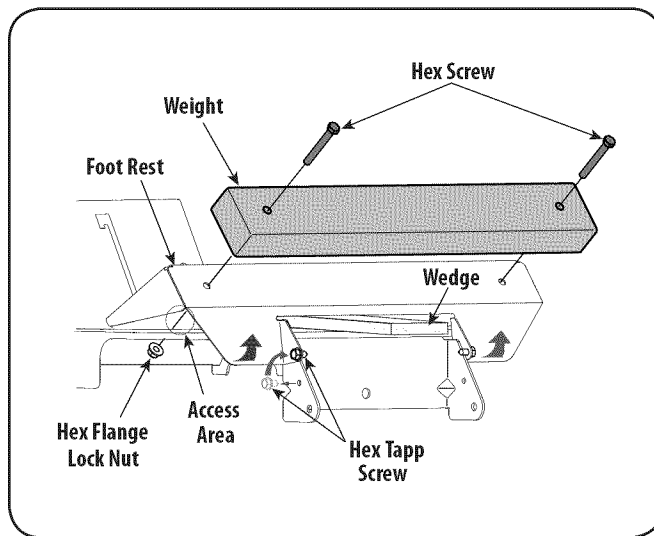

Figure 4-20
Because the openings between the foot rest and the tractor frame (Refer to Fig. 4-20) provide only limited access for installing the hex flange lock nuts, it is recommended that you enlarge these access areas by temporarily raising the front of the foot rest. To raise the front of the foot rest, proceed as follows:
2. Grasp the front of the foot rest and lift it upward. Use one (or both) of the following methods to hold the front of the foot rest in the raised position while installing the weight. Refer to Figure 4-20.
5. Insert two 710-3022 hex screws, from hardware pack 689-00093, through the hole at each end of the weight. See Fig. 4-20.